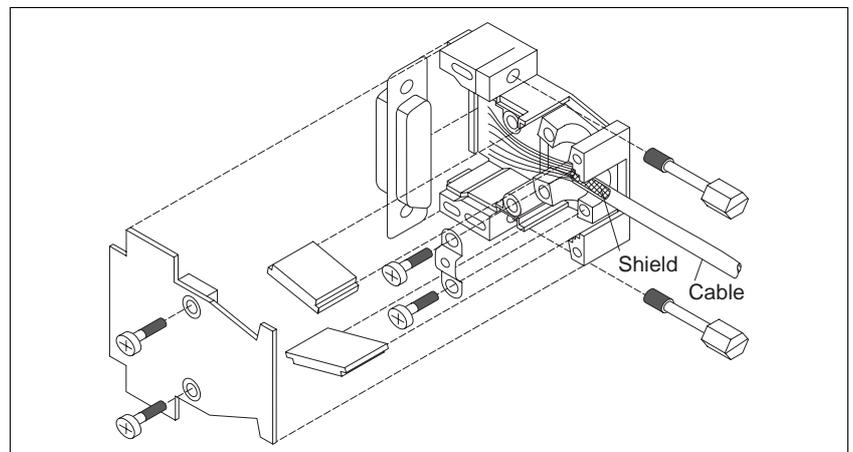

Fig. 2-17 Interface connector assembly – device end
3. Insert two hexagon head screws into the connector shell (fig. 2-17).
8. Fasten the connector to the front panel (item 53) with screws.